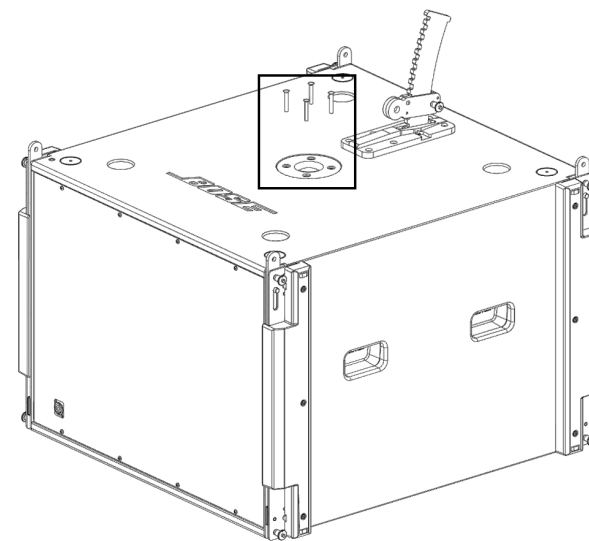

Fig. 5. Remove pole mount screws
3. Remove the 4 screws connecting the pole mount to the top of the subwoofer. Do not remove the actual pole mount. See Fig. 5.